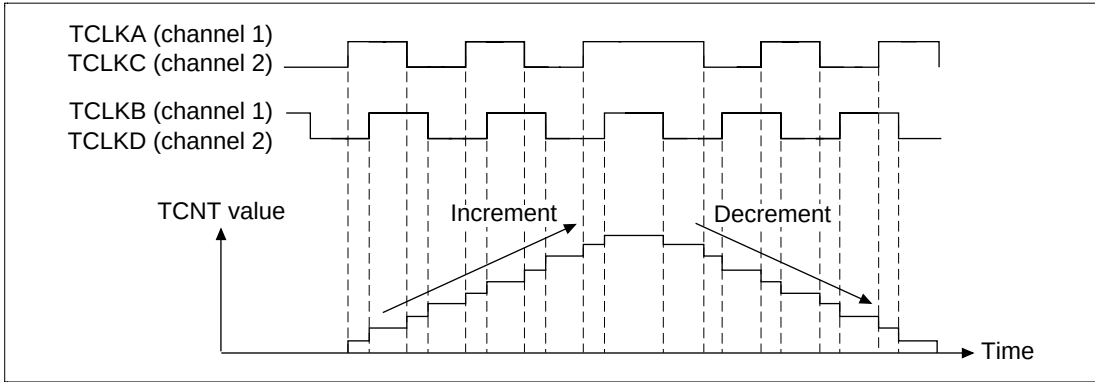

**Figure 12.30 Phase Counting Mode 1 Operation**
**Phase Counting Mode 1:** Figure 12.30 shows an example of phase counting mode 1 operation. Table 12.9 lists the up counting and down counting conditions for the TCNT.